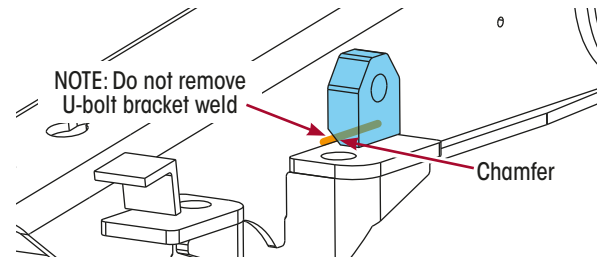
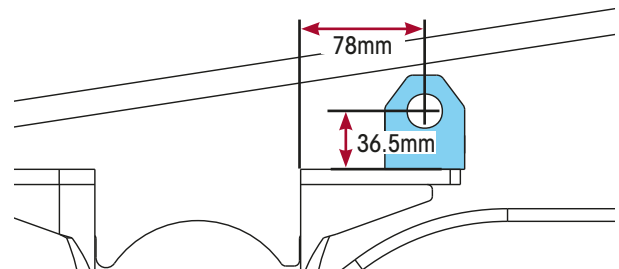

Figure 2: Reinforcement Block Chamfer
Figure 3: Reinforcement Block Placement
1. Grind off any remaining weld and remove existing shock clevis and spacer. However, do not remove any of the U-bolt bracket weld. Refer Figure 2.
1. Position and clamp the reinforcement block with the chamfered edge toward the trailing arm and with the hole in the position shown. Refer Figure 2 and Figure 3.